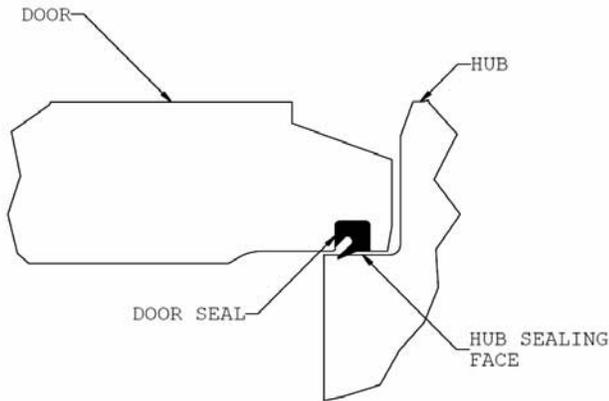

Figure 6 – Seal shown in groove
- 3) **Install** the door seal by pushing it into the seal groove at the 12, 3, 6, & 9 O'clock positions per the orientation indicated in *Figure 6*. The seal should be equally distributed about each quadrant. Firmly press in the remaining portions of the seal such that the entire seal is properly seated in the seal groove.